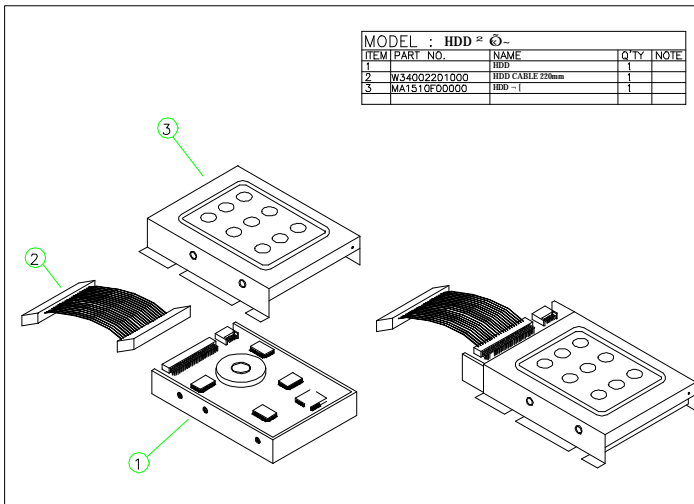

FIGURE 5-4: HDD INSTALLATION
2. Refer to Figure 5-4. Fix the hard disk drive (1) to the HDD bracket (3) with 2 flat-head screws.
3. Connect the one end of the 40-pin IDE cable (2) to hard disk drive.